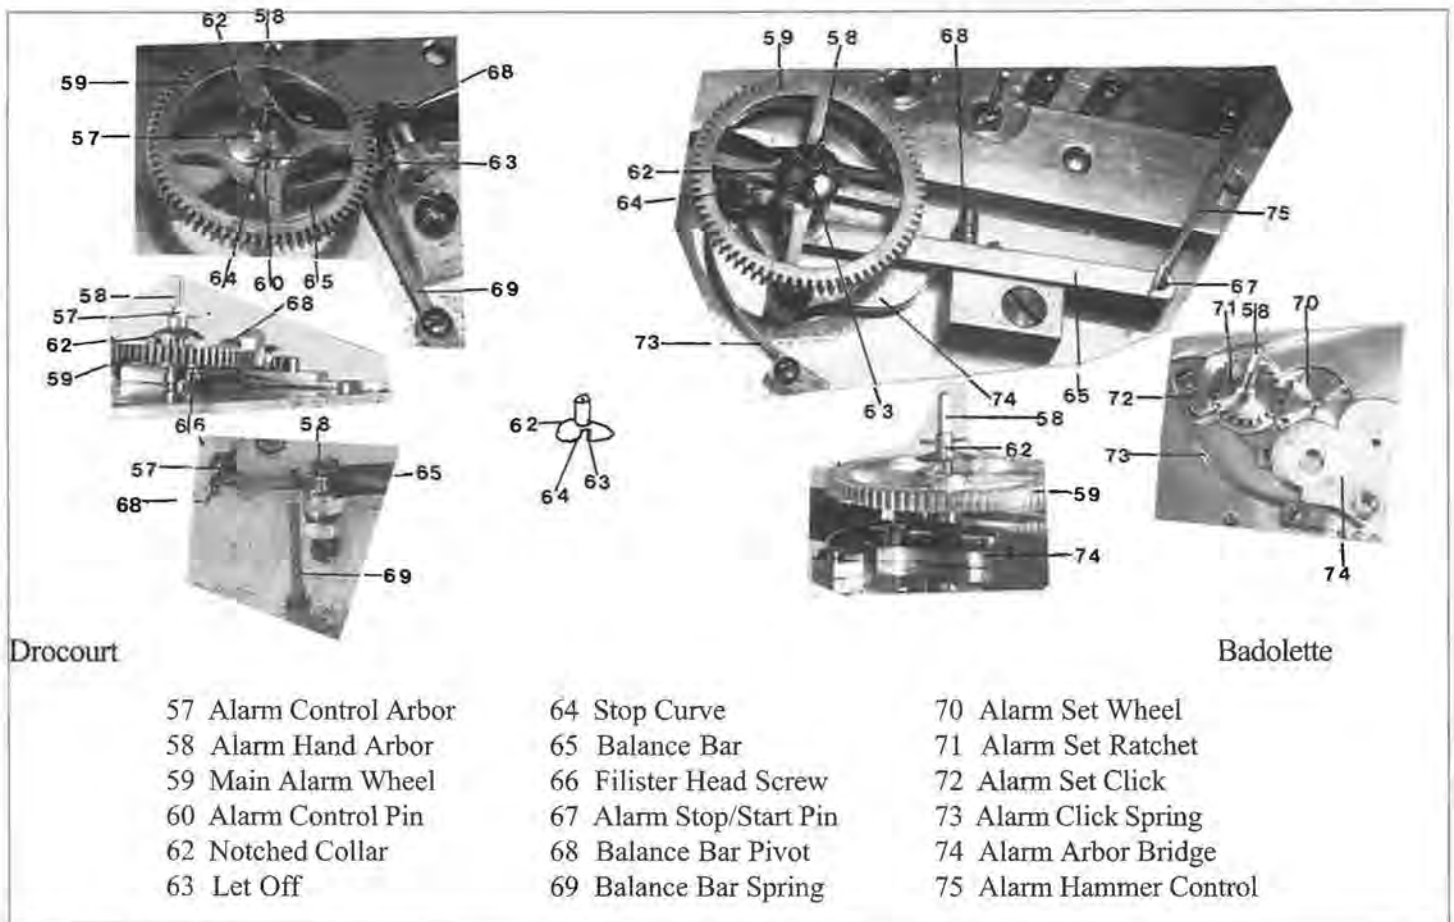

Figure 40.2. Alarm Control Comparisons
**The Badolette system** is configured somewhat differently. The alarm control arbor on this clock is a separate arbor or post, not directly part of the alarm set arbor (84) as in the Drocourt. It is mounted as an assembly together with the alarm set ratchet (71). See detail in the lower right corner of Figure 40.2. The alarm set
As the set arbor is turned it also rotates and positions the notched collar. Since the alarm indicator hand is mounted on the same arbor it also rotates. The notched collar has a notch milled into it (63) (64) (Figure 40.2). The let-off side (63) of the notch is straight up and down. The